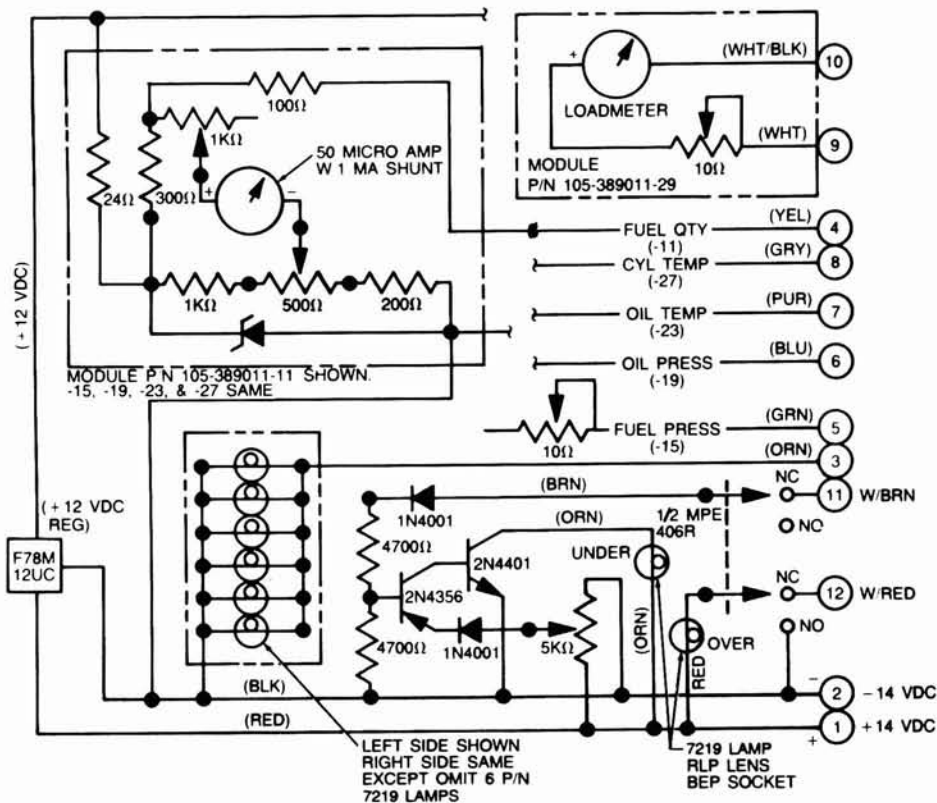

Figure 4
8. Refer to the wiring diagrams in Figures 4, 5 and 6 and repair the engine instrument cluster if required.